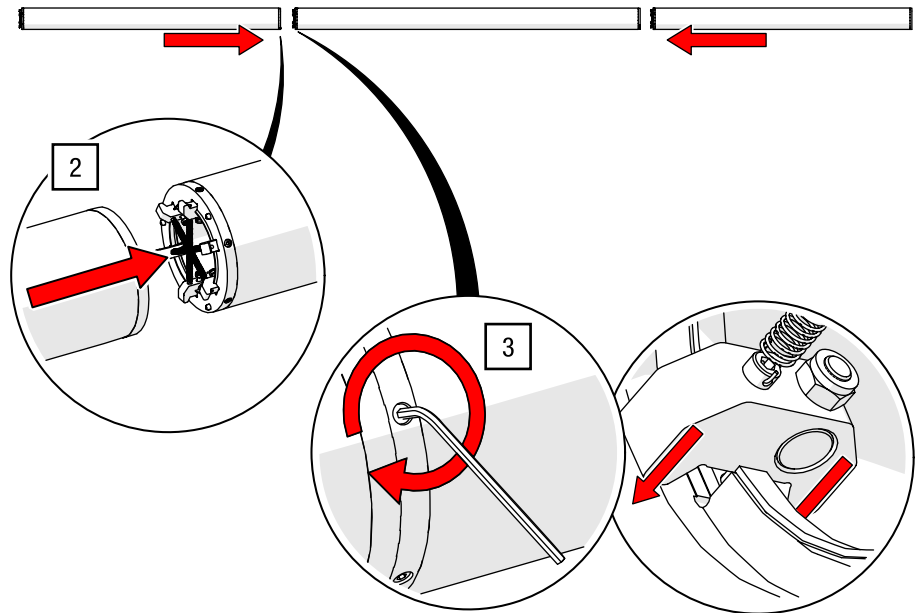

Fig. 23: TUBE roller screen – CFRP-tubes are joined
2. Fit the tubes together with the claw side and the matching counterpart facing each other (see Fig. 23).
3. Tighten the locking claws on the socket head cap screws in a crosswise pattern using a HEX SW 6 key in several stages, first finger-tight and then to a torque of 40 Nm (see Fig. 23).